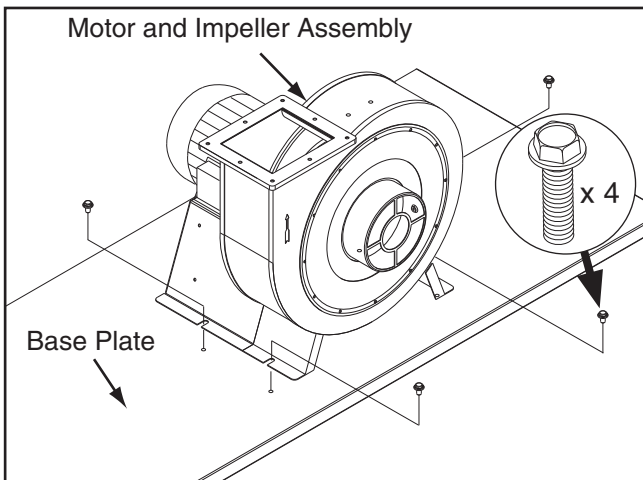

Figure 12. Motor and impeller assembly installed onto the base.
3. Turn the base over, align the motor and impeller assembly with the mounting holes, then secure the assembly with (4) $\frac{5}{16}$ "-18 x $\frac{1}{2}$ " flange bolts, as shown in **Figure 12**.